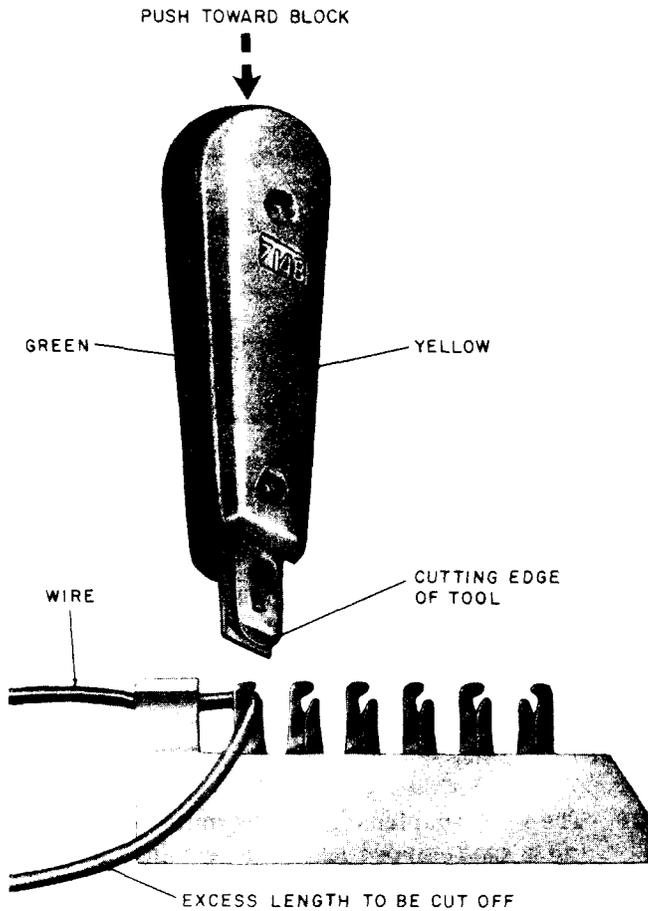

Fig. 9—Preparation for Making Ended Termination
3.07 To make an *ended termination* (Fig. 9 and 10) using the 714B or D impact tool, observe the following procedure: